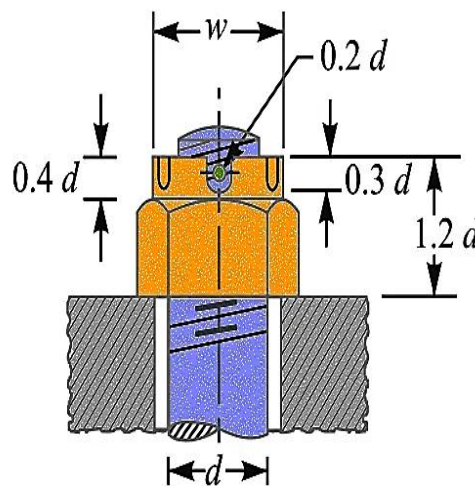

Fig. 3.2: Castle Nut
- A **castle nut** features a standard hexagonal base with a cylindrical extension at the top, which is slotted in line with each flat face (Fig. 3.2).